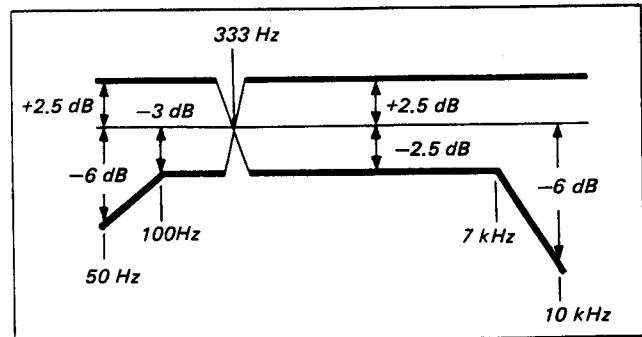

Fig. 5-35. Overall frequency characteristic
- 5) Play back the recorded section of the tape and verify that the level is within the specification. (See Fig. 5-35.)